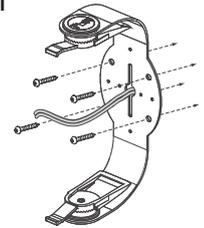

FIGURE 3:
2. Attach the MAGO6V2 brackets to the mounting surface using the included hardware that is appropriate for the type of surface (see figure 3).